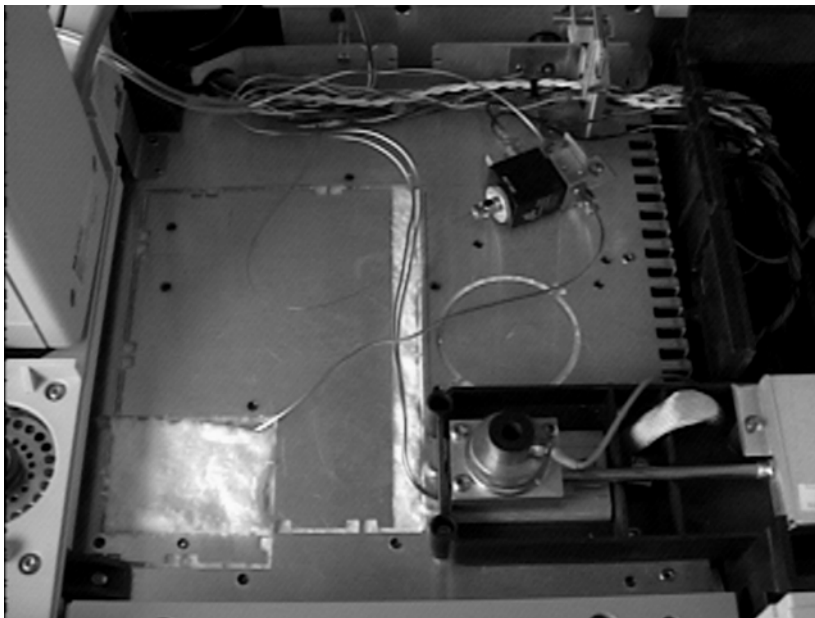

Figure 10 Finishing the SVE valve fitting/assembly installation
- 10 Route the valve cabling through the appropriate cutouts in the electronics carrier. Replace the soft insulation removed earlier back into the small hole cutout of the oven top (see Figure 10).